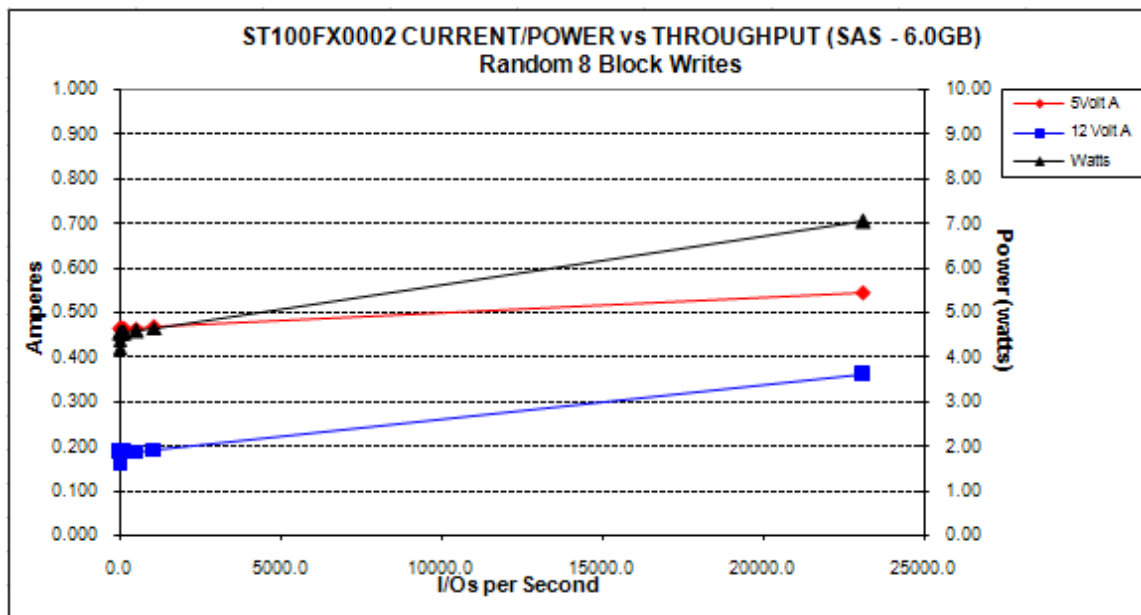

Figure 6. 100GB (at 6Gb) DC current and power vs. input/output operations per second
- [4] See +12V current profile in Figure 6 (for 100GB models).
To obtain operating power for typical random write operations, refer to the following I/O rate curve (see Figure 6). Locate the typical I/O rate for a drive in your system on the horizontal axis and read the corresponding +5 volt current, +12 volt current, and total watts on the vertical axis. To calculate BTUs per hour, multiply watts by 3.4123.